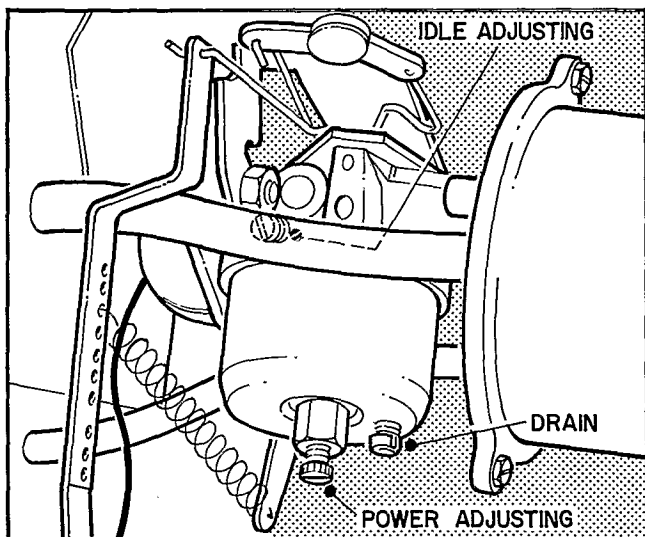

Figure 1.
3. Close idle adjusting needle (see Fig. 1) by turning to right (clockwise). Close finger tight only. Forcing will cause damage.
8. Allow several seconds between each adjustment when performing either Step six (6) or seven (7) to allow engine to react to new setting.